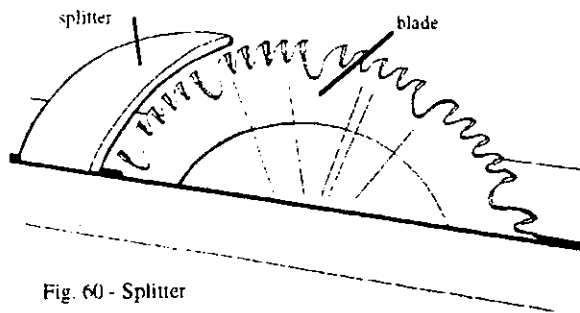

Fig. 60 - Splitter
- \* When material with internal stresses are cut they bend. This is because the stresses must be re-neutralized. Sometimes, material bends inward and pinches against the back of the blade. Use of a splitter (see Fig. 60) will help to solve this problem, as will a wedge inserted into the sawkerf to separate the material.
**Splitters:** The splitter (see Fig. 60) is a tracking device. It is probably the most effective anti-kickback device available because it keeps the material from moving sideways into the blade and being caught by the rotating teeth.
**Exiting material, especially dimensioned lumber, may pinch the blade. Splitters can be used (see Fig.60). Wedges may also have to be inserted to keep the saw kerf open.**